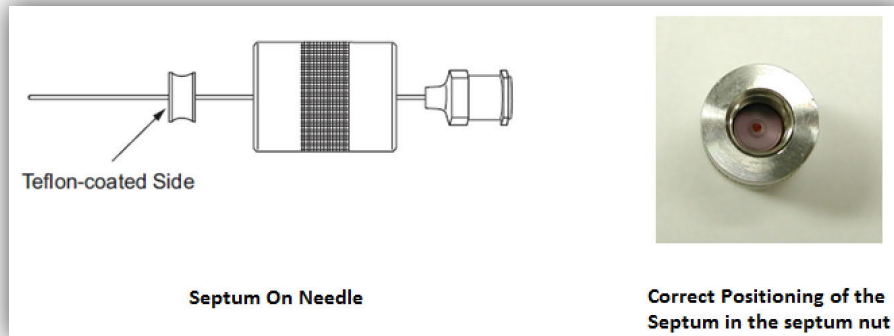

Figure 117: Septum inserted on needle with Teflon coating facing away from the septum nut
7. Slide the septum nut and new septum onto the provided blunt 22-gauge needle. The Teflon-coated side of the septum must face away from the septum nut. (Figure 117)